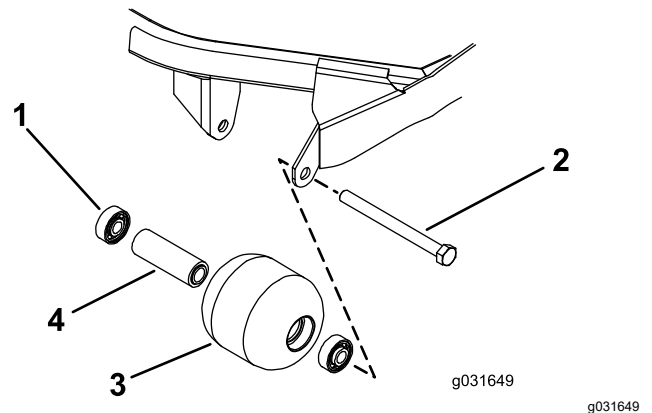

Figure 73
1. Remove the roller-mounting bolt (Figure 73).
4. Inspect the roller housing, bearings, and bearing spacer for damage (Figure 73).
1. Pressing on the outer race only or equally on the inner and outer race, press the first bearing into the roller housing (Figure 73).
2. Insert the spacer (Figure 73).
3. Pressing on outer race only or equally on the inner and outer race, press the second bearing into the roller housing until it contacts the spacer (Figure 73).